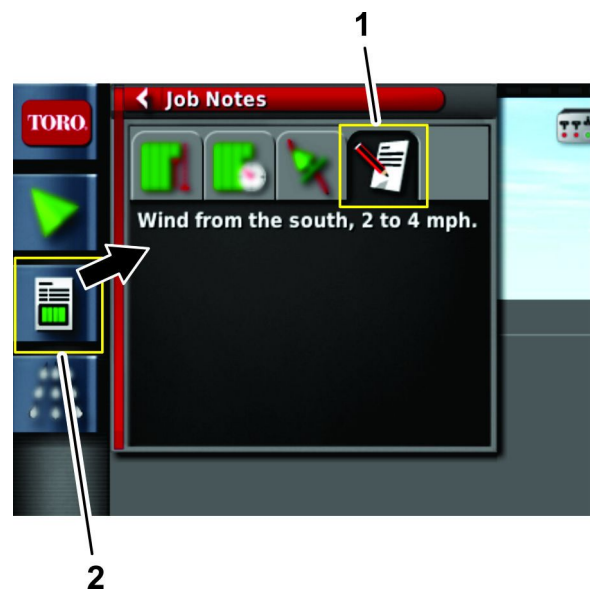

Figure 26
1. Open the job-information icon (Figure 26).
2. Press the job-notes icon (Figure 26).